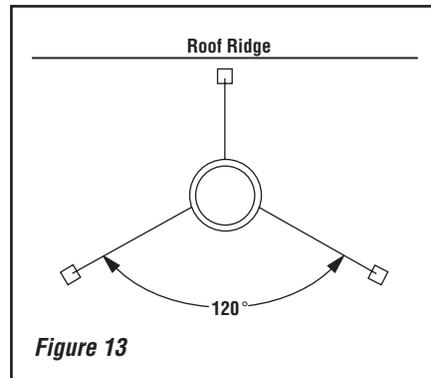

Figure 13
Note: If chimney extends more than 8' above roof surface, guy wires are also recommended. Use three (3) guy wires, attach to locking band assembly, extend and secure to roof in a triangular pattern (**Figure 13**). Guy wires are not supplied by the manufacturer.